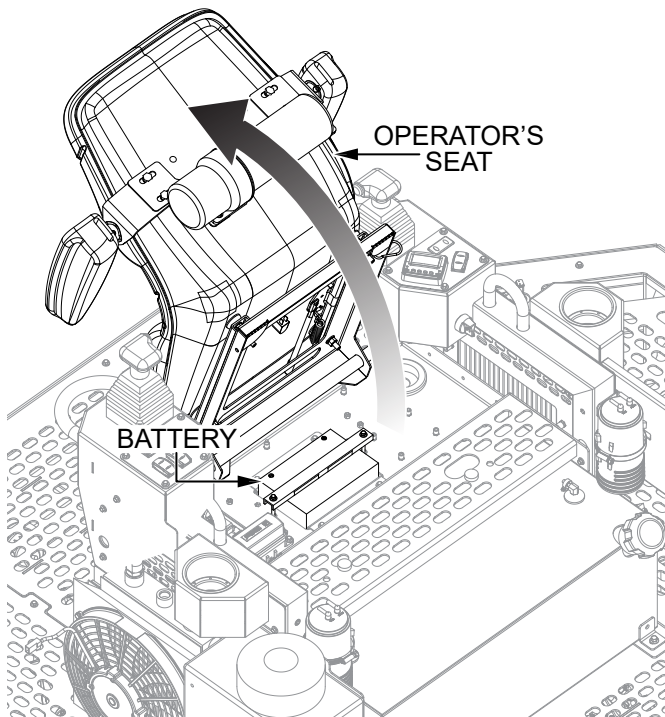

Figure 14. Battery Access
1. Tilt the **operator's seat** forward to access the **battery** (Figure 14).